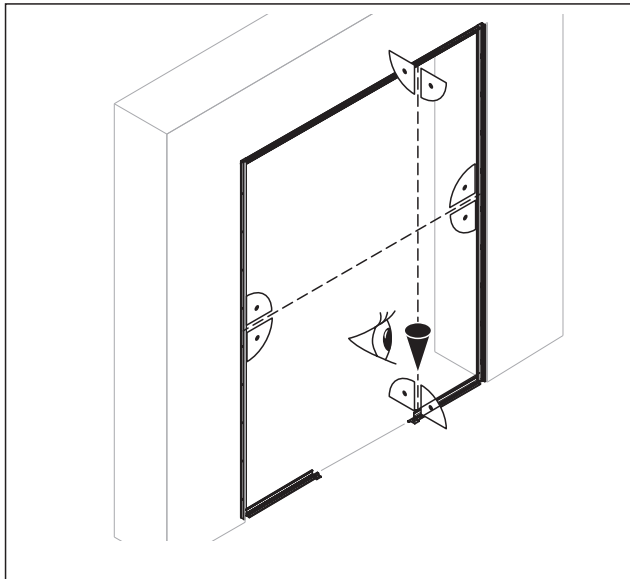

Fig. 18 Mark the unit alignment
1. Mark the unit's alignment (Fig. 18) on the ground, e.g. with a chalk line.